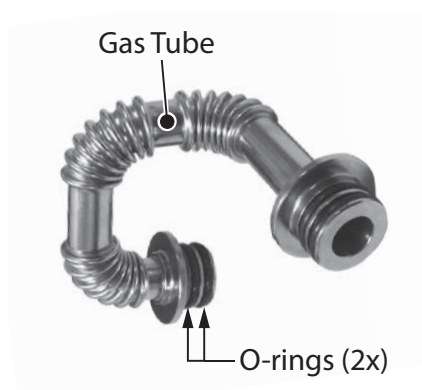

Figure 107 - Install venturi O-rings to gas tube
- 19** Locate the two (2) O-rings provided in the kit. Remove the two (2) old O-rings from gas tube (venturi mating side) and install the two (2) new O-rings as shown in Figure 107.